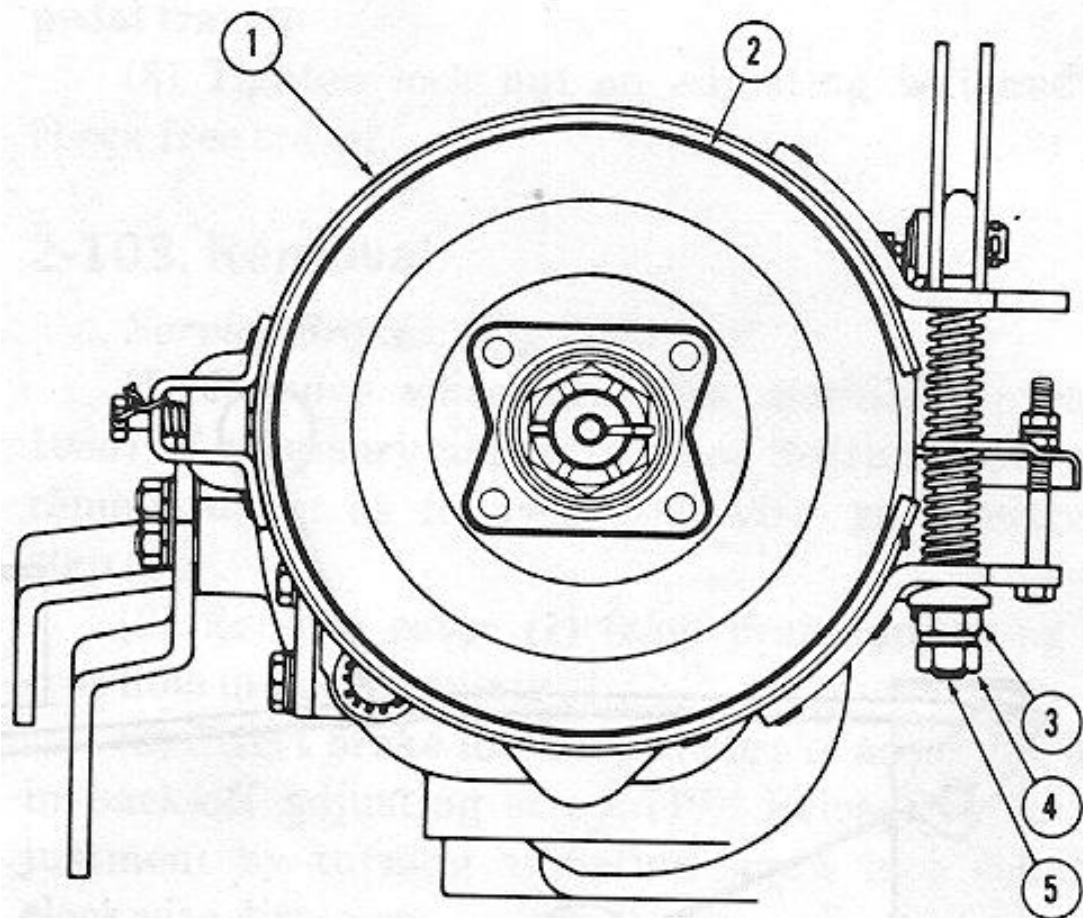
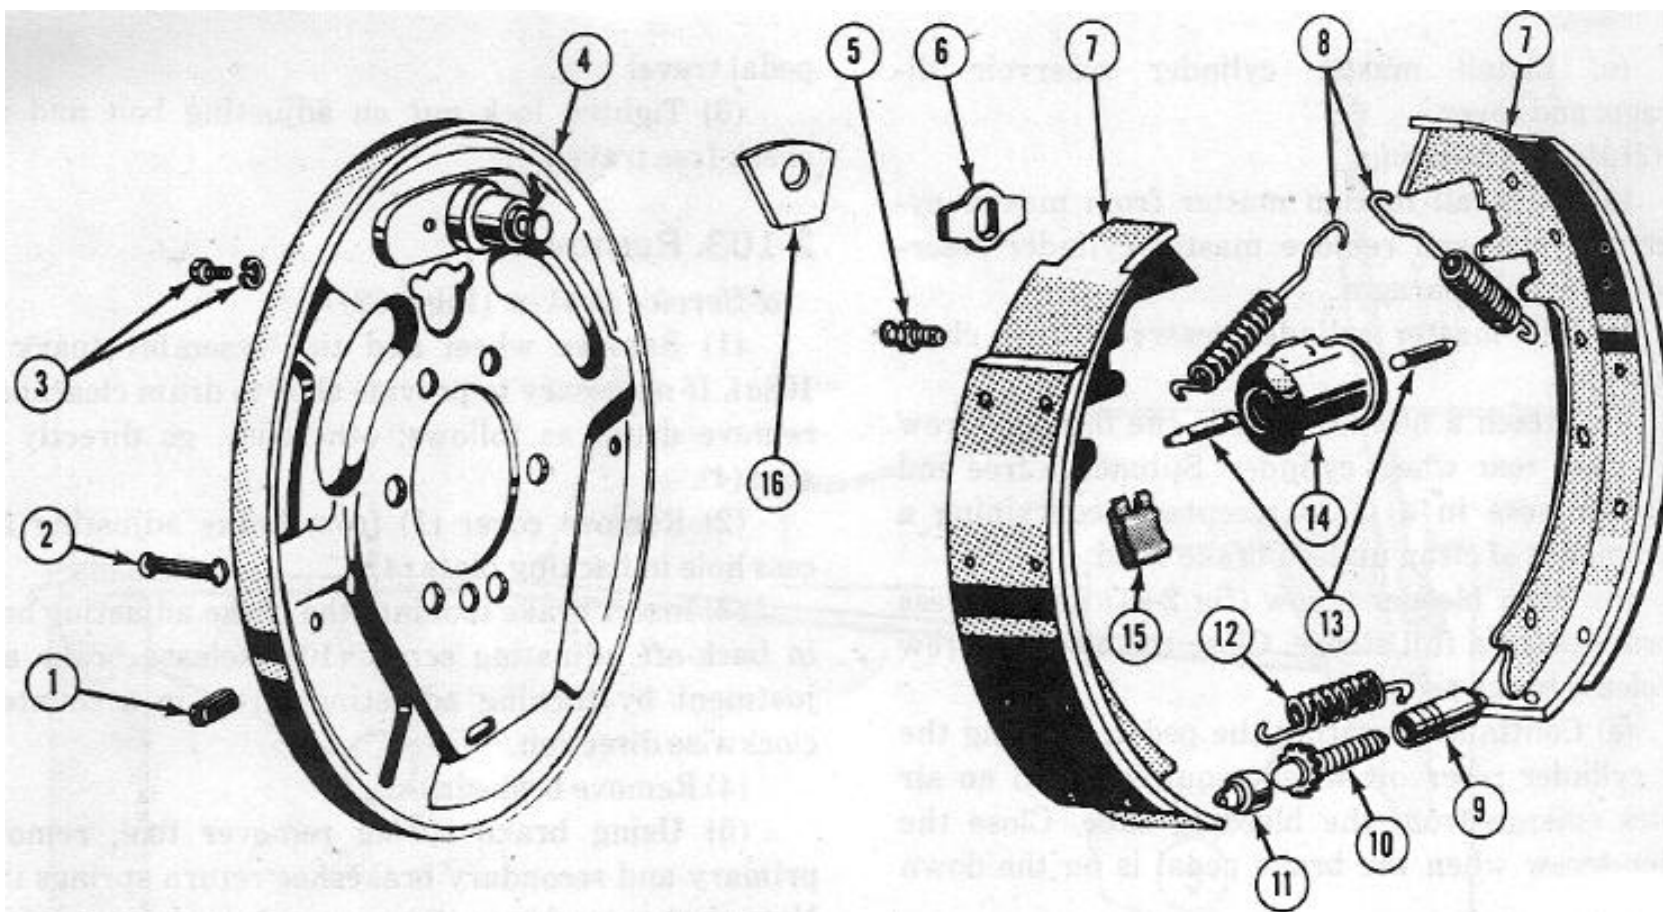

Figure 2-79. Transmission band type brake adjustment
Figure 2-82. Brake assembly
b. Hand Brake Adjustment (Fig 2-79)
- (1) Place the vehicle on a level floor and place the hand brake in the fully released position.
- (2) Remove the cotter pin and clevis pin that attach the control rod to the cam levers.
- (3) Remove the locking wire from the anchor Screw,
- (4) Loosen the two jamnuts on the adjusting J-bolt and the two jamnuts on the adjusting screw.
- (5) Insert a 0.015-inch thickness gage between the brake lining and the drum at the anchor clip. Turn the anchor screw as required until slight friction is felt
a. Service Brakes. (Fig 2-82)
- (1) Remove wheel and tire assembly (para 2-108a). If necessary to provide shoe to drum clearance, remove drum as follows; otherwise, go directly to step (4).
- (2) Remove cover (1) from brake adjusting access hole in backing plate (4).
- (3) Insert brake tool into the brake adjusting hole in back-off adjusting screw (10). Release brake adjustment by turning adjusting screw in a counterclockwise direction.
- (4) Remove brakedrums.
(5) Using brake spring remover tool, remove primary and secondary brakeshoe return springs (8). Note that secondary return spring overlaps primary return spring.
(6) Remove anchor pin washer (6), holddown spring (15) and holddown pins (2).
(7) Remove primary and secondary brakeshoe assemblies (7) and adjusting screw assembly (9, 10, 11) and spring from backing plate (4).
b. Hand Brake. (Fig 2-79)
(1) Disconnect the brake rod from the brake cam lever.
(2) Remove 3-inch screw from lining assembly and cast bracket,
(3) Cut brake band anchor lock wire and remove brake band anchor clip screw, taking care not to lose brake band anchor spring located inside the bracket.
(4) Remove two brake adjusting nuts from brake adjusting bolt. At this point, loosen the two bolts holding the ends of the rear transfer case crossmember until the crossmember drops approximately ½-inch.
(5) Lift brake adjusting bolt upwards until it clears the lower ear of the brakeshoe assembly and remove the bottom spring.
(6) Continue to lift the brake adjusting bolt and pull the brakeshoe assembly rearward at the same time until the brake band bolt clears the cast retainer.